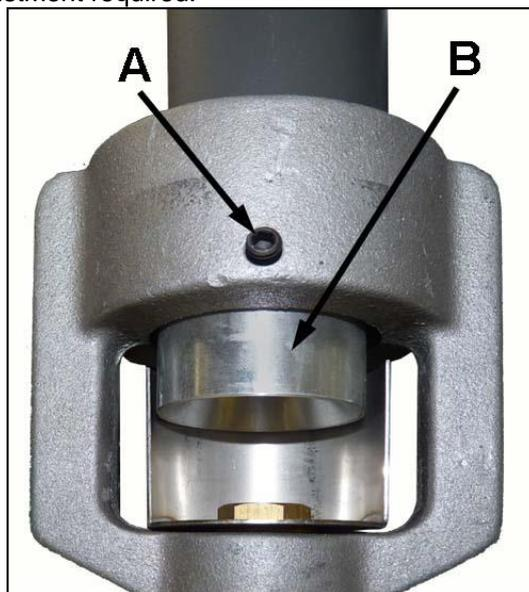

Fig. 6.7
- Loosen the Allen screw (A, Fig. 6.7) and adjust the position of the Venturi body (B).